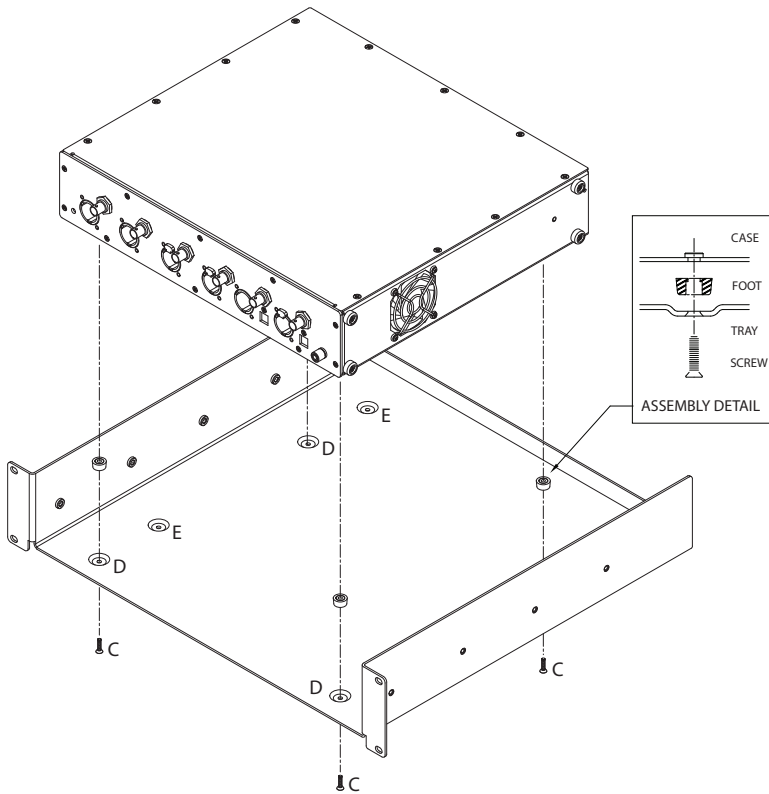

Figure 2. Mounting APx515 securely to rack shelf.
Step 1. Using the 4 10-32 5/16" screws (B), mount the shelf in a standard 19" equipment rack.
Step 2. Set the APx515 instrument on the shelf, being sure that the rubber feet sit in the indentations in the shelf. See Figure 2. Use indentations (D) for flush mounting, or indentations (E) for recessed mounting.
## Mounting Option II: Secured shelf mounting (Figure 2)